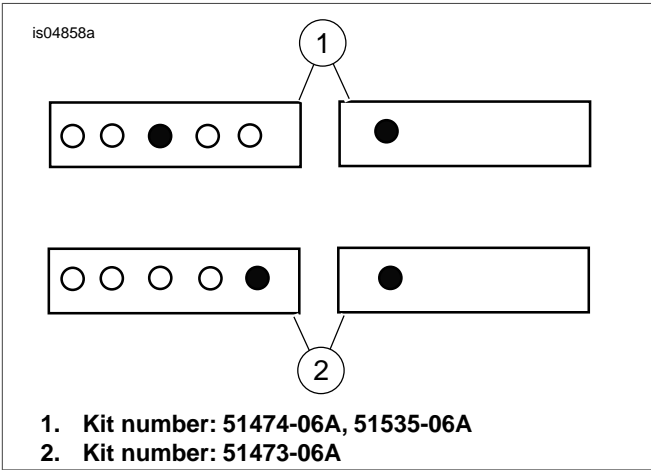

Figure 4. Grab Strap Installation
5. See Figure 4. Install new grab strap with washer and nut and tighten nut to 8-13 ft-lbs (11-18 Nm).